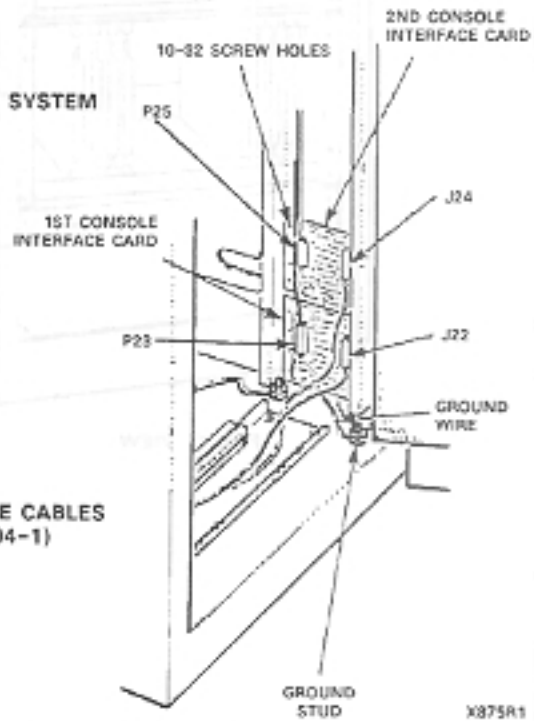

Fig. 504-1 Console Interface Card Position
(FIG. 504-1)
- (3A) Loosen all cable clamps so that the cables have approximately 10 inches (25.4 cm) of slack (Fig. 504-1)